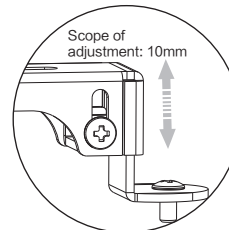

figure 14
4.Rotate the adjustable screw(4-3) for adjusting the height of instillation arms (4-2) if the installation holes are not at the same level as figure 14.